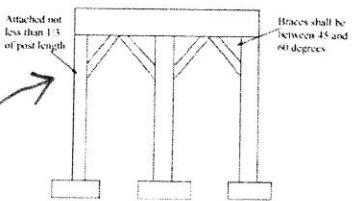

Figure AM109.1
- ▶ **AM109.1.2** 4x4 wood knee braces may be provided on each column in both directions. The knee braces shall attach to each post at a point not less than 1/3 of the post length from the top of the post, and the braces shall be angled between 45 degrees and 60 degrees from the horizontal. Knee braces shall be bolted to the post and the girder with one 5/8 inch hot dipped galvanized bolt with nut and washer at both ends of the brace per Figure AM109.1